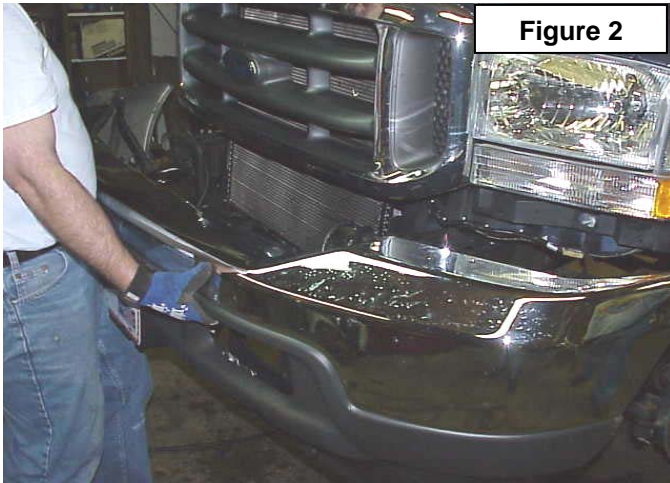

Figure 2
6. Gently pull the bumper outward as shown in **Figure 2**. Carefully remove the lighting harness plugs, and any other wiring attached to the bumper assembly to allow for removal noting the routing of the wiring. Place the bumper assembly out of harms way to ensure that no damage occurs to the bumper.